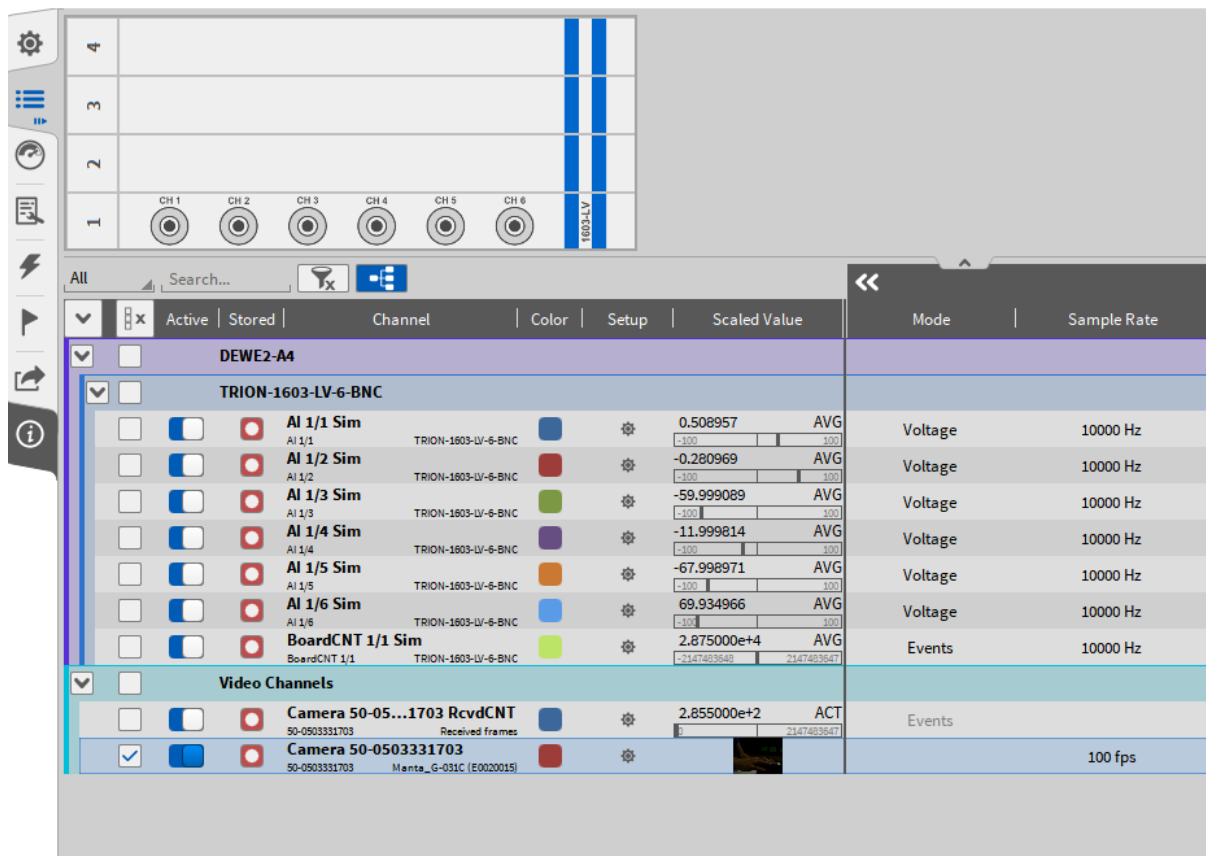

Fig. 8.130: Frame Counter Channel
**Note:** For each connected camera, there exists a counter channel that counts the number of received frames since acquisition start. The channel has the same name as the respective camera with RcvdCNT appended. To activate the counter, you need to activate the channel (The channel is not activated automatically). The channel can be found in the *Video Channels* section of the Channel List (see Fig. 8.130).